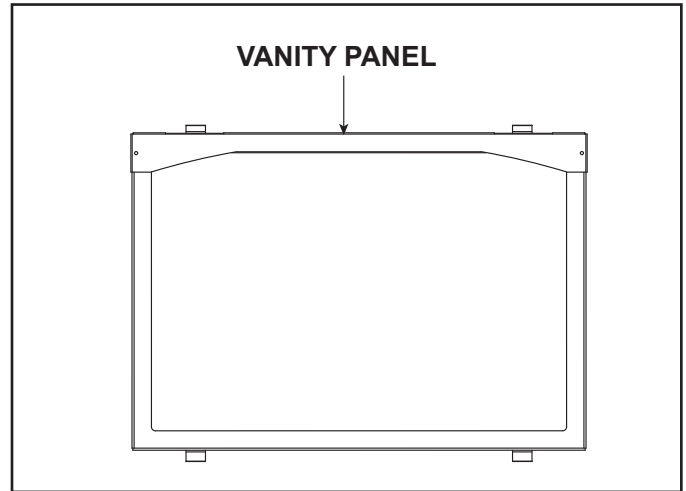

Figure 3. Vanity Panel - Forged Arch
2. Position glass vanity panel over top of glass frame as shown in Figure 3.